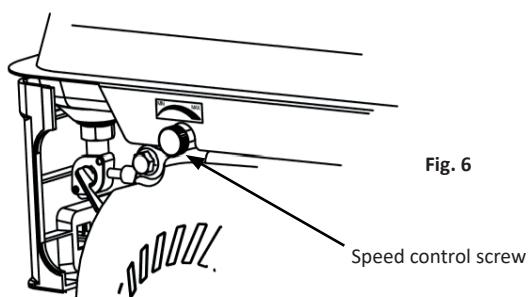

Fig. 6
**Speed control screw (Fig. 6)**